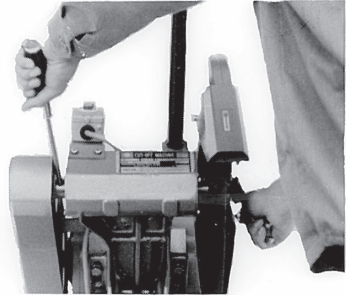

Fig. 5
## 1. Dismounting the Cut-off Wheel (Fig. 5)
- (1) As shown in Fig. 5, the spindle has a rotation stop hole. Stop the spindle by inserting a screwdriver (or a 10mm rod) through the hole.
- (2) Remove the subcover and use the provided 19×24mm spanner to loosen the M16 bolt.
- (3) Remove the M16 bolt, 16mm spring washer, washer, and wheel washer; then dismount the wheel.